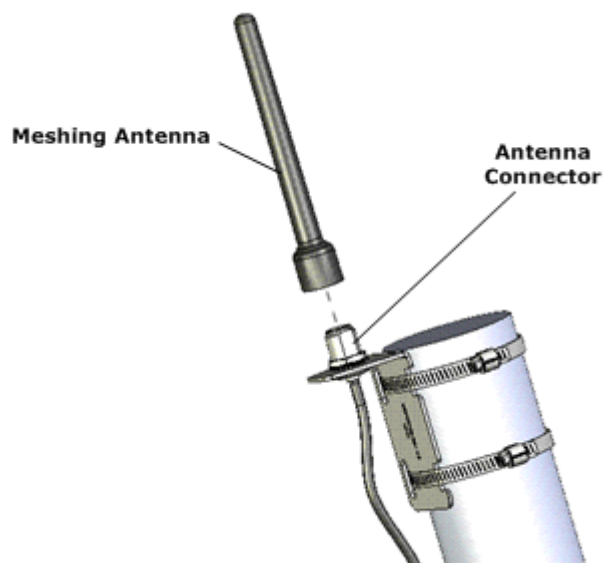

Figure 8: Mounting Bracket to Pole
2. Attach the antenna wire [D] to the mounting bracket [B], as illustrated in Figure 8.